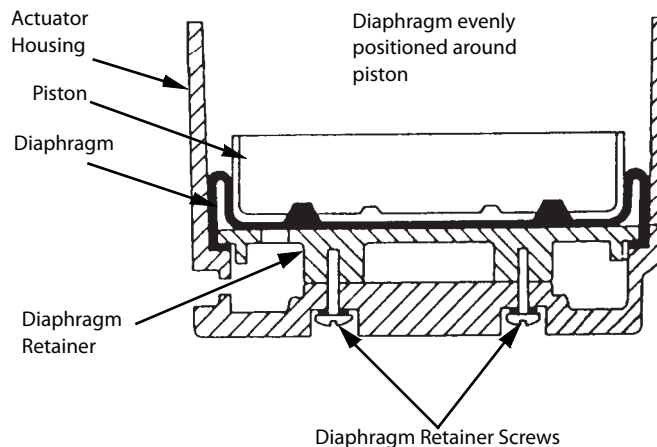
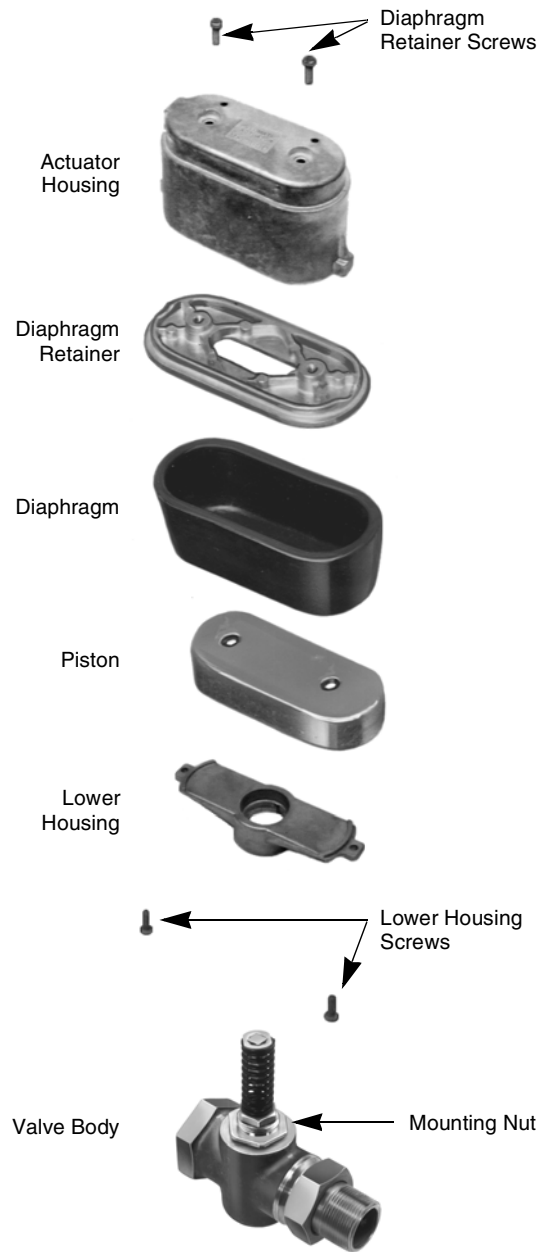

Figure-2 Positioning Piston in Diaphragm
Figure-3 Exploded View of MK-2690.
2. Loosen mounting nut. (See Figure-3.)
4. Place actuator on its top, and remove two (2) lower housing screws. Remove lower housing.
7. Remove diaphragm and its retainer from actuator housing by pulling them straight out from housing. (See Figure-2 and Figure-3.)
10. Place the actuator housing on its top (open side up) and center the piston on the diaphragm. (See Figure-2.)
11. Pull protrusions on diaphragm through mating holes on piston. (See Figure-2.)
12. Push the piston down evenly, rolling diaphragm around piston. Be certain to position the piston squarely on diaphragm with equal distances from piston to housing sides. (See Figure-2.)